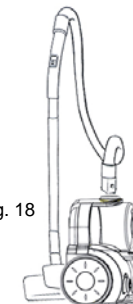

Fig. 18
1. For vertical parking position, place the vacuum on its side and slide the floor brush into the locking position with the receptacle which is on the bottom of the unit. (Fig. 18)